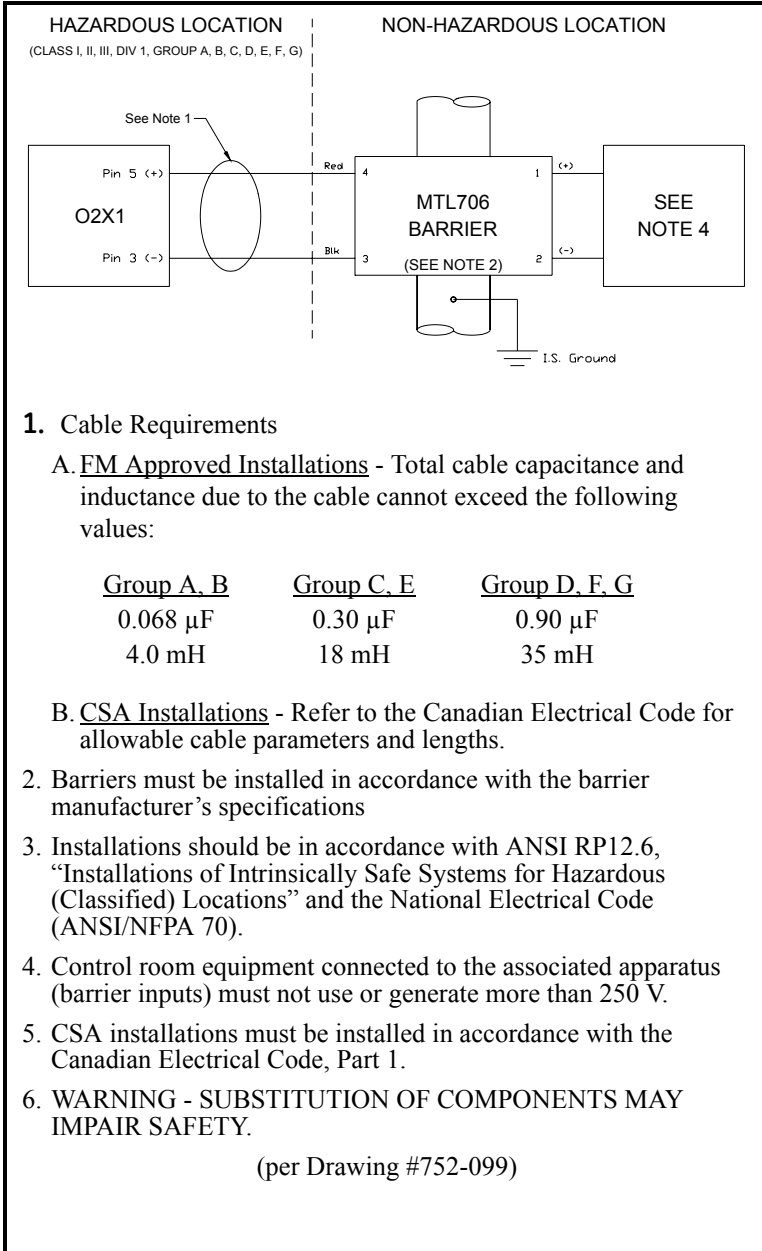
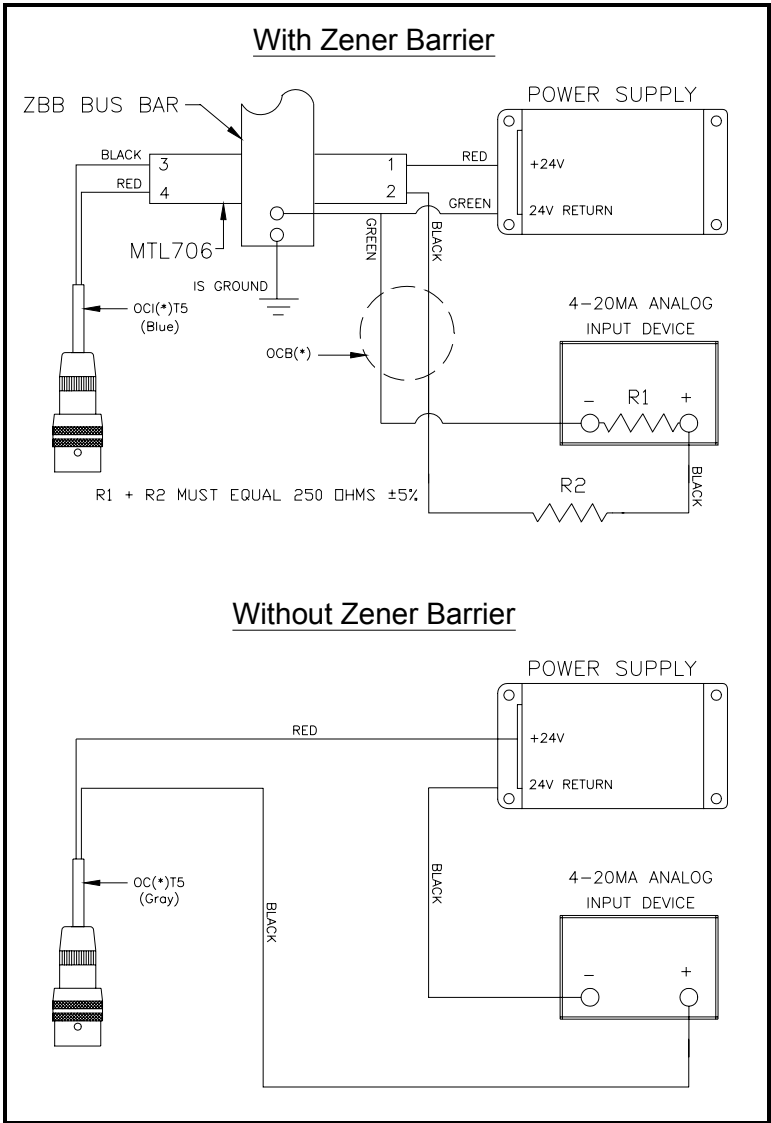

Figure 5: Typical Certification Requirements for 316 SS Process Unit Installations
Figure 6: O2X1 Wiring Diagrams
To wire the O2X1, refer to Figure 5 on the next page and Figure 6 on page 8. Then, proceed as follows:
For FM/CSA/BASIEFA certified applications, the O2X1 must be installed with a zener barrier (see Figure 5 on the next page). Also, for installations in a hazardous location, the blue OCI (5) T5 cable must be used.
- b. **With Zener Barrier:** Attach the red and black wires to the zener barrier, as shown in Figure 6 on page 8.
To construct an O2X1 cable longer than the one supplied with the unit (up to a maximum of 1,100 ft), refer to *Note 1* in Figure 5 on the next page and the specifications on pages 24 and 25. Solder the two leads on one end of the cable to the connector provided by GE Sensing. For the pin connections on the O2X1, see Figure 2 on page 3.